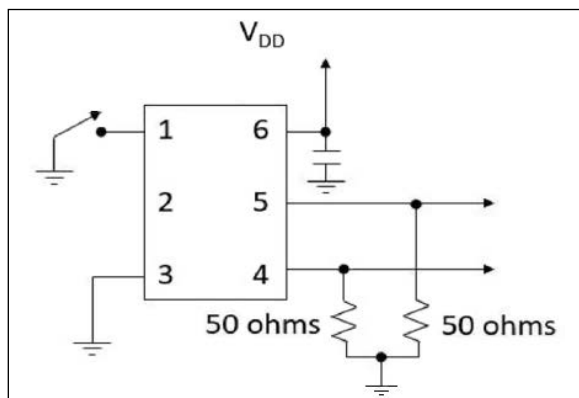

FIGURE 1-4: HCSL Test Circuit.
- Added new HCSL ordering option details throughout document, including but not limited to the Electrical Characteristics, HCSL Option, table and Figure 1-4.